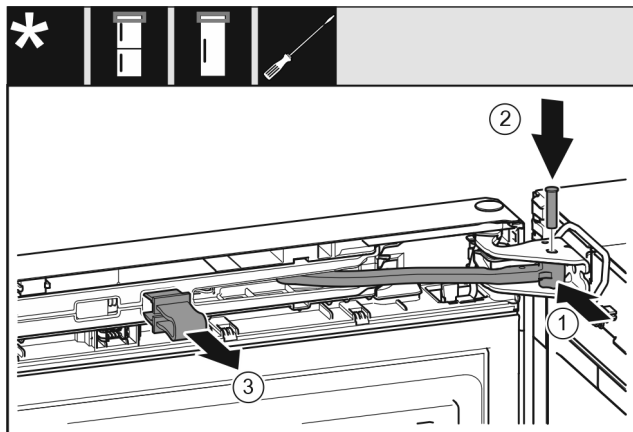

Fig. 24
- ▶ Turn the joint Fig. 24 (1) in the bearing block.
- ▶ Insert the bolt Fig. 24 (2) into the bearing bracket and joint. Ensure that the latching cam is in the groove properly.
- ▶ Remove the safeguard Fig. 24 (3).